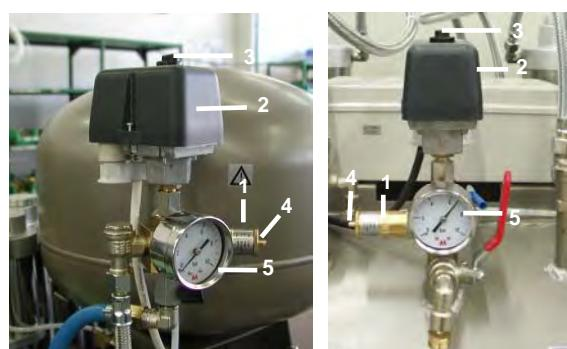
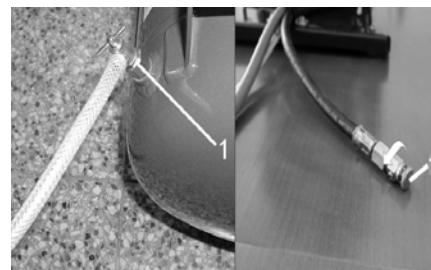

Fig.13
Fig.14
(Fig.13)
13.1. Condensation drain valve**Compressors (Fig.14, Fig.15)**
If the compressor will not be used for a prolonged time period, drain any condensate from the air tank. Then turn on the compressor for 10 minutes, keeping the drain valve open (1) (Fig.14, Fig.15). Switch off the compressor by switch (3) at pressure switch (2) (Fig.13), close the drain valve and disconnect the appliance from the mains.
- Release air pressure in the pressure tank by opening the drain valve (1) (Fig.14, Fig.15).